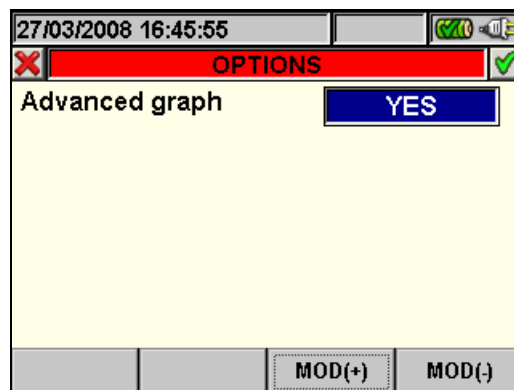

Fig. 119: Options (Advanced graph)
- **F4** key (or **OPTIONS** item on the display) to access the page for the activation of the “Advanced graph” (Fig. 119).
2. Press the **F4** key (or the **OPTIONS** item on the display) to access the page for the activation of the Advanced graph (Fig. 119).